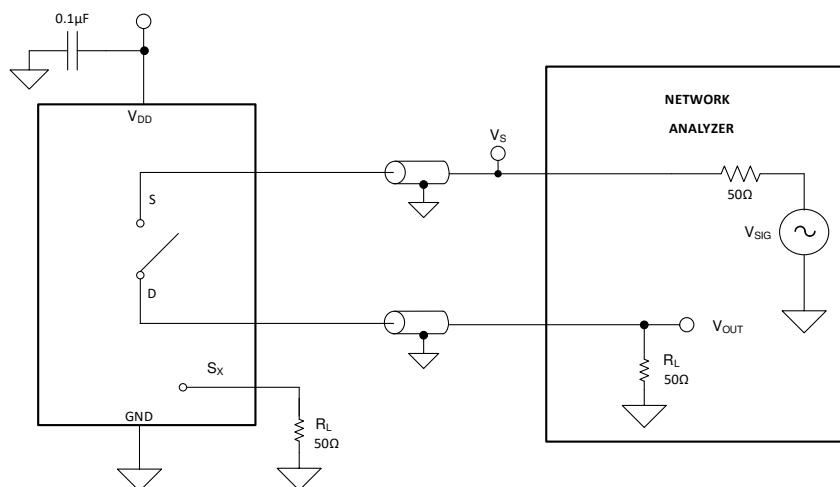

Figure 6-8. Off Isolation Measurement Setup
Off isolation is defined as the ratio of the signal at the drain pin (D) of the device when a signal is applied to the source pin (S_x) of an off-channel. Figure 6-8 shows the setup used to measure, and the equation used to calculate off isolation.